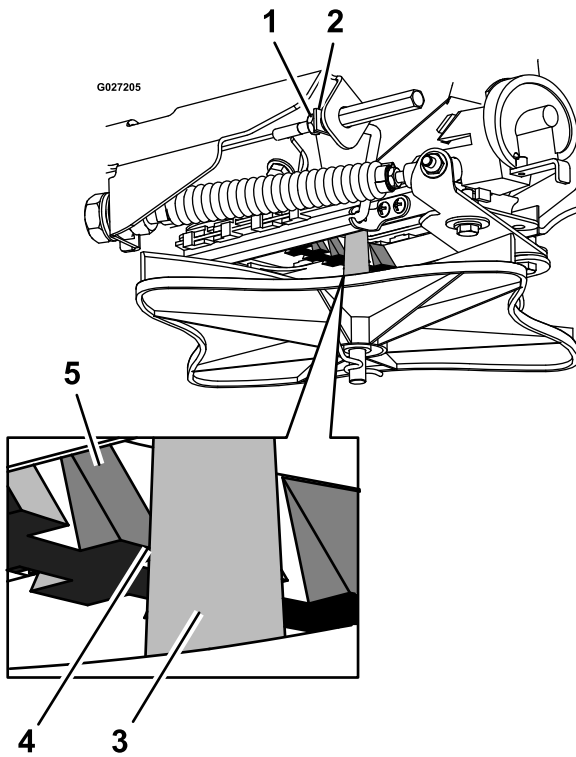

Figure 99
5. Loosen the jam nut at the end of the pattern-control cable (Figure 99).
6. Pull the linkage rod until there is 1/8 inch (3.2 mm) gap between the ramp tooth and the impeller shaft (Figure 99).
7. Tighten the jam nut (Figure 99).